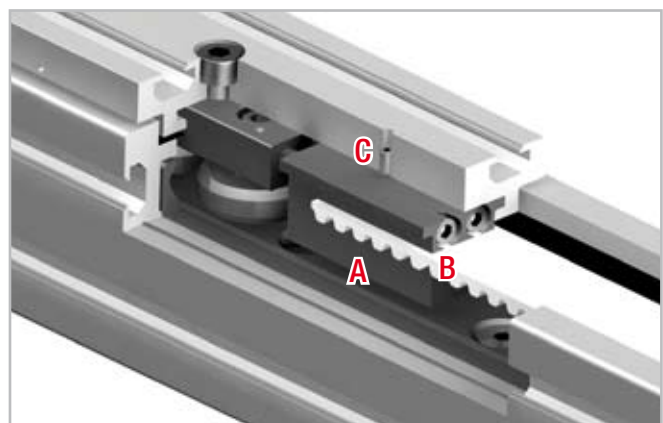

Fig. 61
1. Unscrew the safety screws C (on top of the slider plate) from the belt tensioning device A (see fig. 61).